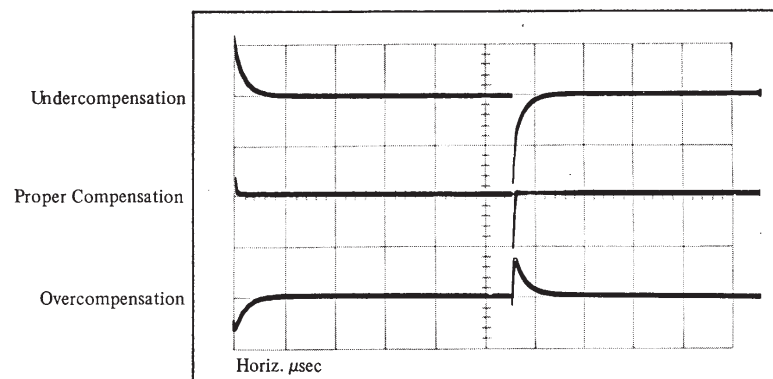

Figure 8 Model 2005 Amplifier Pole/Zero Adjust
12. Set switch on Schottky clamp box to CLAMPED, change scope display to 100 mV/div. and adjust the Amplifier Pole/Zero front panel trim pot for best pulse response as shown in Figure 8. Amplifier Pole/Zero is now set precisely.